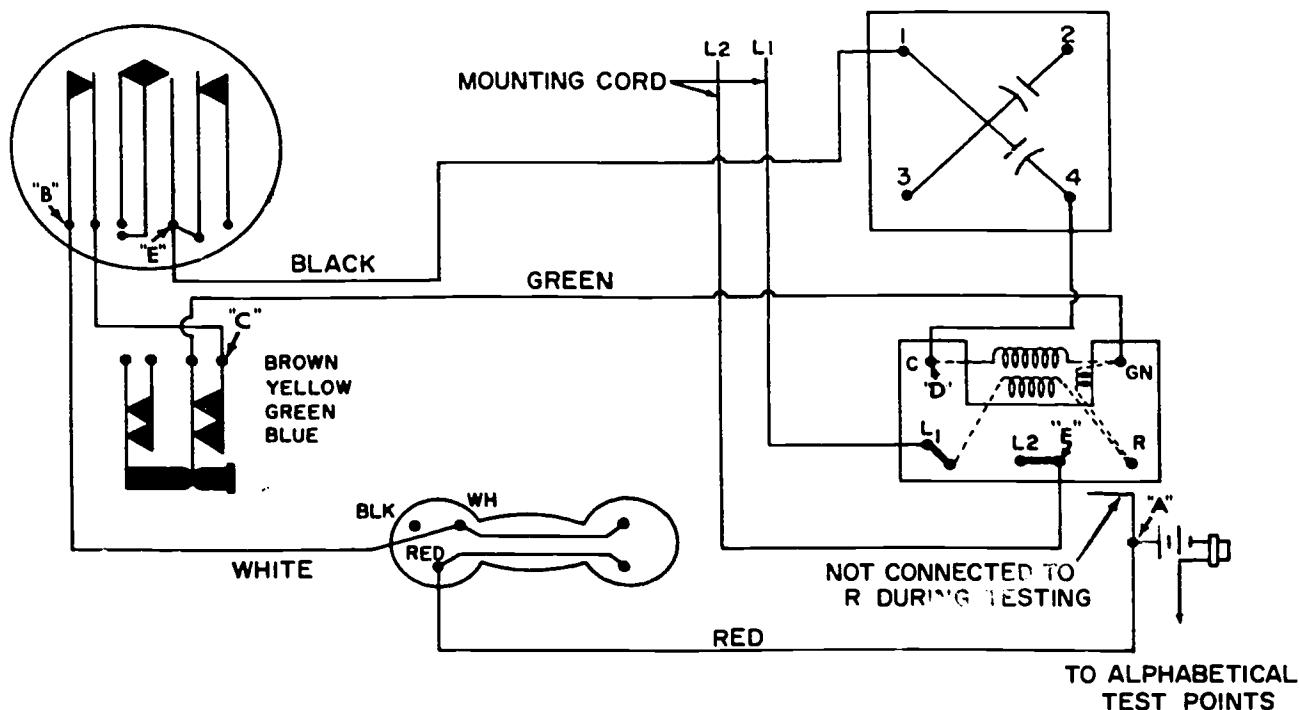

Figure 5-4. Receiver test.
Testing the Receiver Circuit. The receiver circuit tests are illustrated in figure 5-4. When you check this circuit, you determine test results by the clicks you hear in the telephone receiver. Pay no attention to the clicks heard in the test receiver. Also, these receiver tests are performed only after you know the phone transmits. Again the A position is the test set's lead at the disconnected wire of the R terminal, but the B, C, D, and E positions are not the same as those used for testing the transmitter circuit.
Before we discuss the receiver tests, examine the circuit between points A and B in figure 5-4. You can see that a RED lead extends from point A to the terminal RED on the handset. Also, note that conductors extending through the handset connect the WHITE and RED terminals to two receiver terminals at the opposite end of the handset. Although it is not shown in the illustration, the receiver unit (when in place in the handset) completes the circuit between these two terminals. Thus, when the receiving unit is in place in the handset, the circuit should be completed from point A to point B via the RED and WHITE leads and the handset receiver. If this circuit is in good condition, connecting the test leads from point A to point B causes a click in the handset receiver. If you do not hear a click when you make this test, it indicates that the circuit between points A and B is at fault.
When the test indicates that the circuit is in good condition between points A and B, move the test connection from point B to point C. This extends the test through the dial and hookswitch contacts, shown between points B and C in figure 5-4. If you hear a click in the handset receiver during this test, the circuit is in good condition from point A to point C. However, if this test does not produce a click in the receiver, the circuit between points B and C is at fault. (This assumes, of course, that the previous test showed the circuit from point A to point B to be in satisfactory condition.) To continue the test, move the lead to point D, thus testing the green lead and induction coil winding between points C and D. If this is satisfactory, move the lead to point E to test the leads and capacitor between points D and E. Once again, when a test indicates that the circuit is faulty between two test points, then you must individually test the components between these two test points to locate the faulty unit.
4. When testing a receiver circuit such as the one shown in figure 5-4 of the text, what is indicated if you don't hear a click while testing from point A to point B?
5. When testing a receiver circuit such as the one shown in figure 5-4 of the text, what is indicated if you don't hear a click when the test receiver with its battery is connected directly across the terminals of the handset receiver?